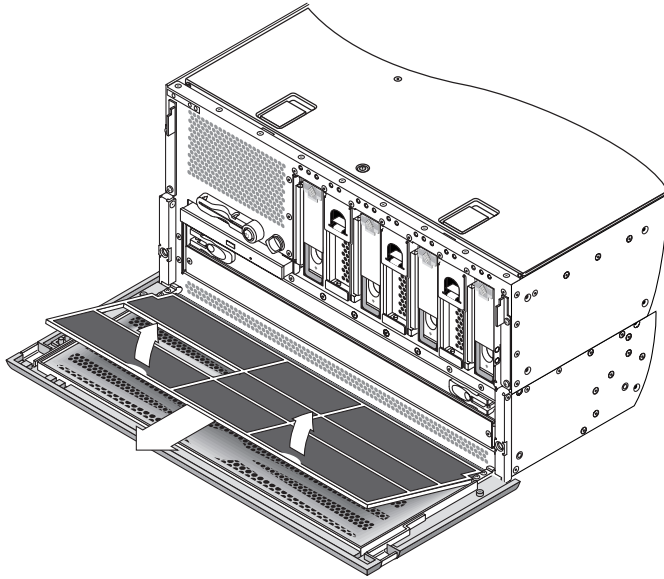

FIGURE 3-8 Removing the Air Filter
3. Remove the air filter assembly from the front door panel (FIGURE 3-8).
1. Install the air filter assembly into the front door panel (FIGURE 3-8).